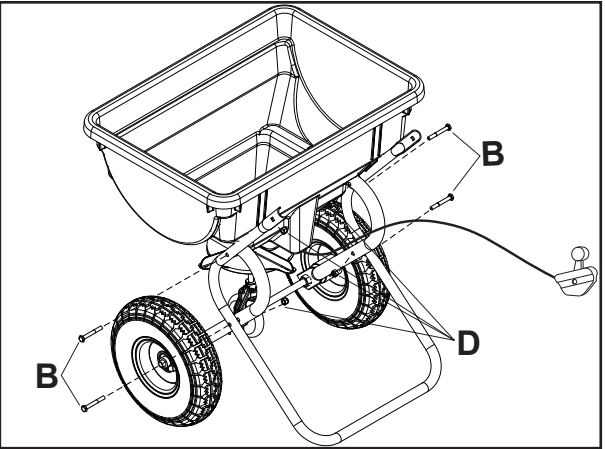

Figure 7
STEP 7 (SEE FIGURE 7): Attach the leg tube to the assembly using four 1/4 x 2" hex bolts (B) and secure with four 1/4" nylock nuts (D).